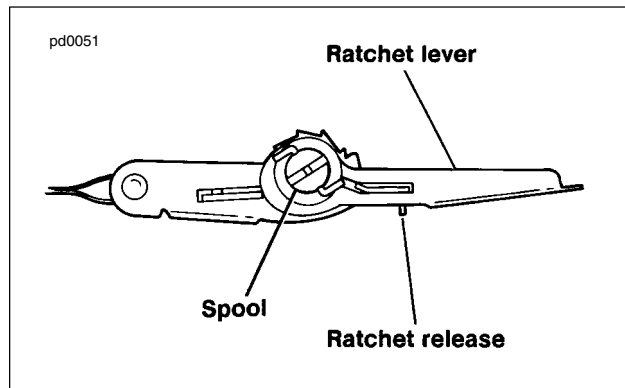

Figure 1-19. Strap Ratchet Lever (Release Position)
- c. See Figure 1-19. Swing open the ratchet lever to the release position; tensioned nylon strap will rapidly unwind. remove strap and any protective padding from pallet.